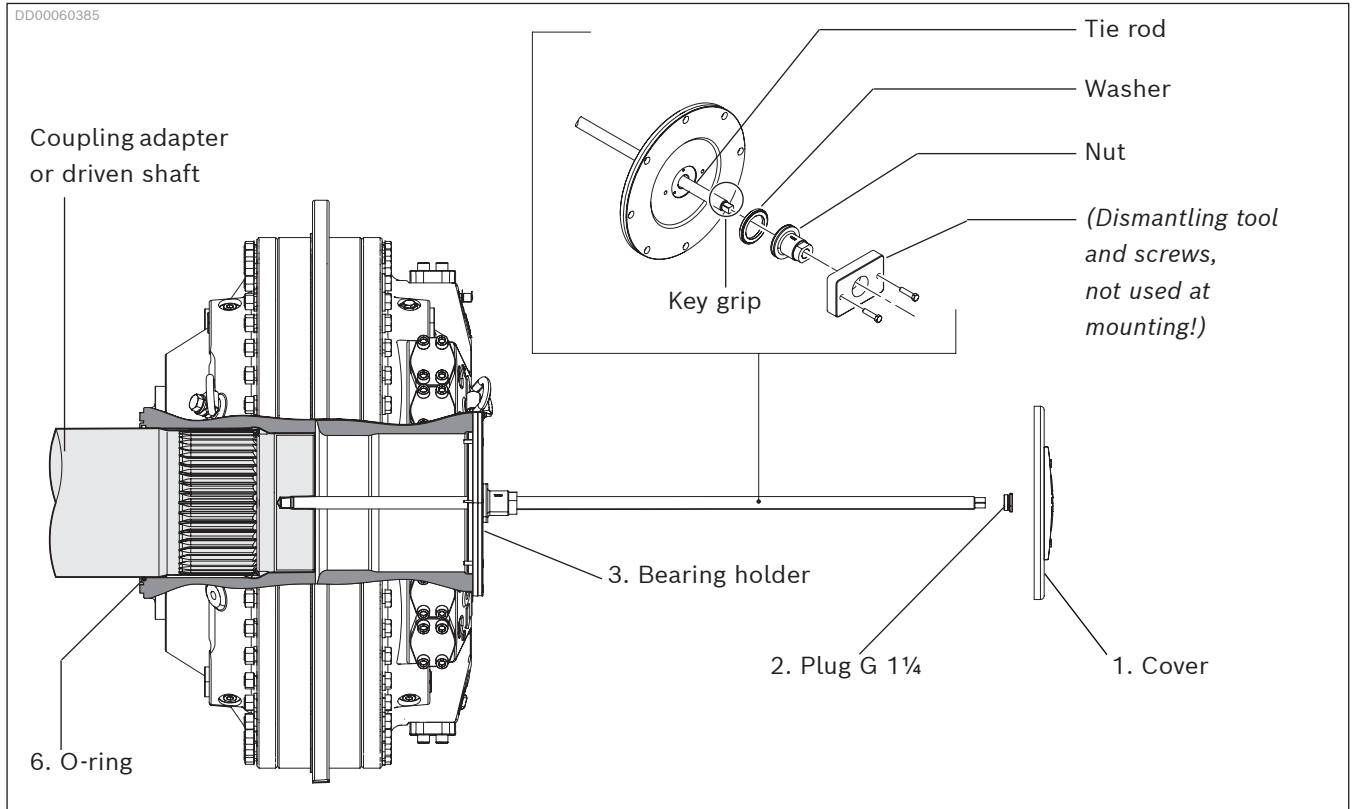
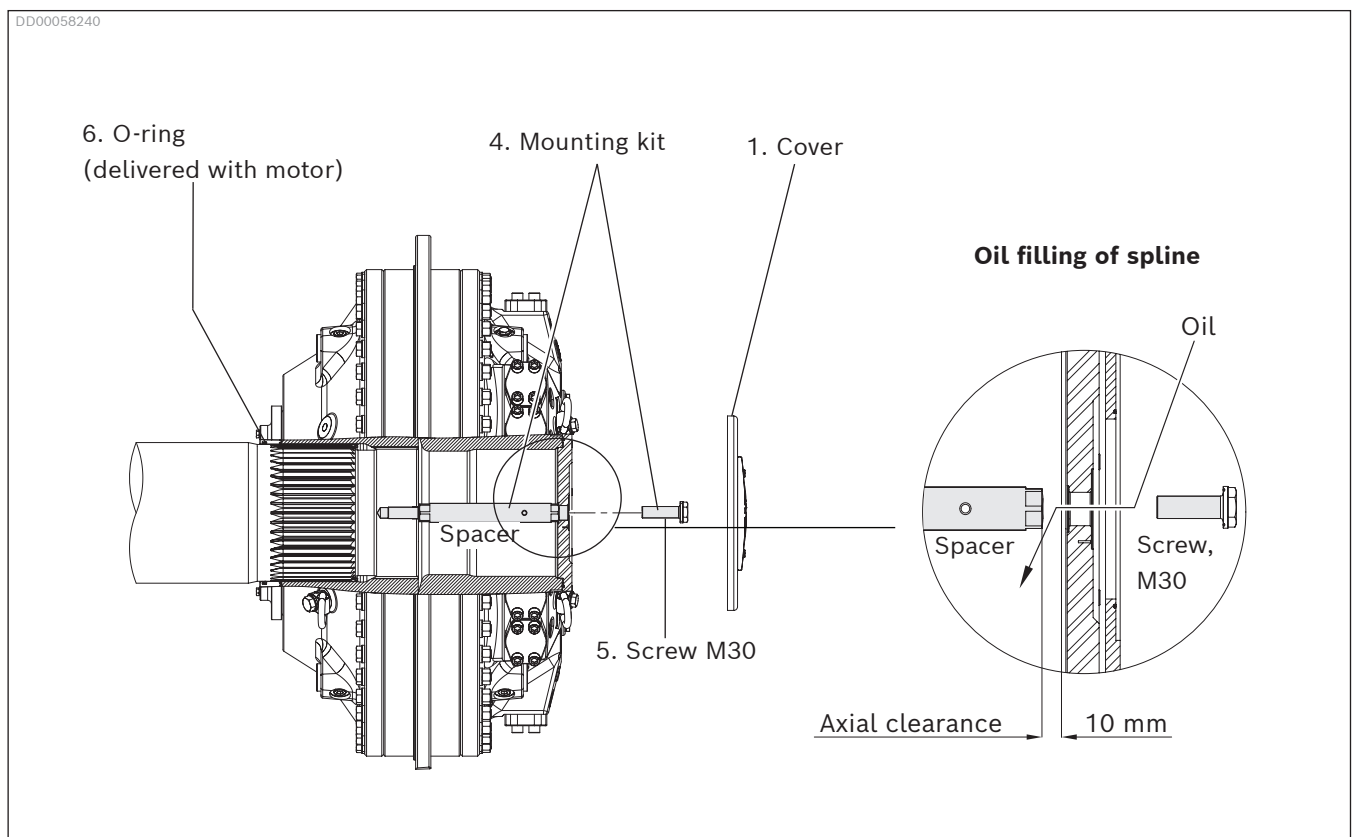
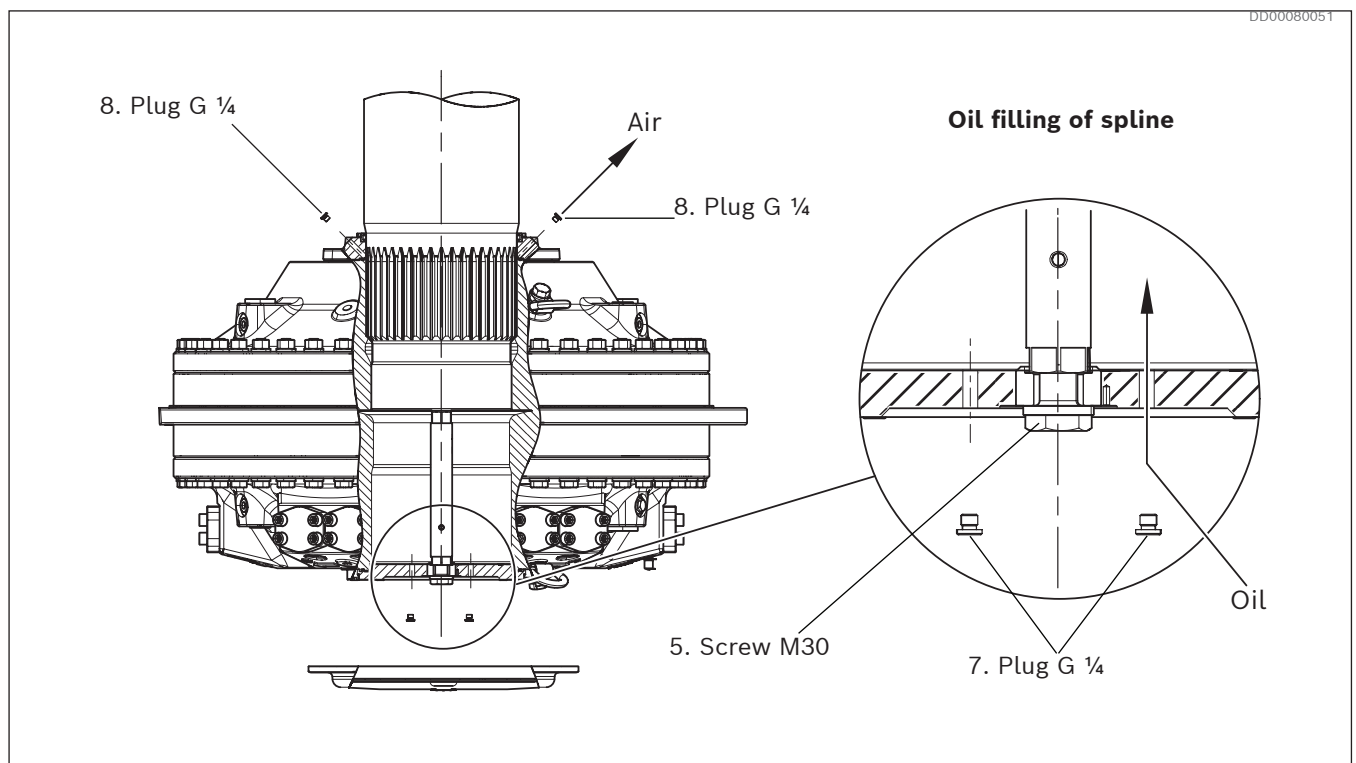

Fig. 46: Mounting spline motor with assembly tool
Fig. 47: Fix the spline motor with the mounting kit, horizontal mounting
Fig. 49: Vertical mounting of spline motor
This instruction is related to the pictures *Fig. 46*, *Fig. 47* and *Fig. 49*.
4. Remove the cover (1) together with screws and washers.
7. Install the assembly tool by pass the tie rod through the centre of the motor, and screw it into the driven shaft by using a wrench at the key grip at the end of the assembly tool. Assemble the washer and then the nut tight to the bearing holder (3).
11. Fix the motor to the driven shaft by using the mounting kit (4): Mount the spline alignment tool again. Torque the spacer to 1840 Nm (1357 lbf·ft).
12. Remount bearing holder (3). Torque 80 Nm (59 lbf·ft).
13. Fill up with hydraulic oil to the G 1¼ thread. Axial clearance 10 mm [0,4 in] during filling, see *Fig. 47*. Oil volume, see *Table 17*. Mount the screw M30 (5). Torque 1840 Nm (1357 lbf·ft).
Alternatively: Mount the screw M30 (5). Torque 1840 Nm (1357 lbf ft.) Remove one of the two G ¼ plug (7) on the bearing holder and G ¼ plug (8) on shaft side seal retainer and pump in oil until oil is coming out from the G ¼ connection on shaft side seal retainer, see *Fig. 49*. Torque the G ¼ plugs. Torque 30 Nm (22 lbf ft.)
14. Remount the cover (1). Torque 200 Nm (148 lbf·ft).
2. Fill up hydraulic oil to the G 1¼ thread. See *Fig. 52 or Fig. 49.*